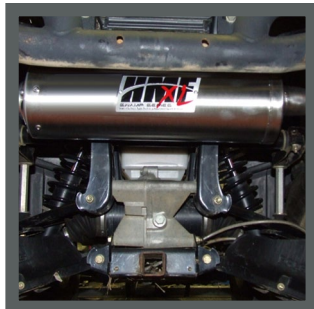

Figure 2
3. Mount the **Silencer** using the **Supplied Bolts** and the supplied **Springs**. Align the **Silencer** and tighten. (See Figure 2)